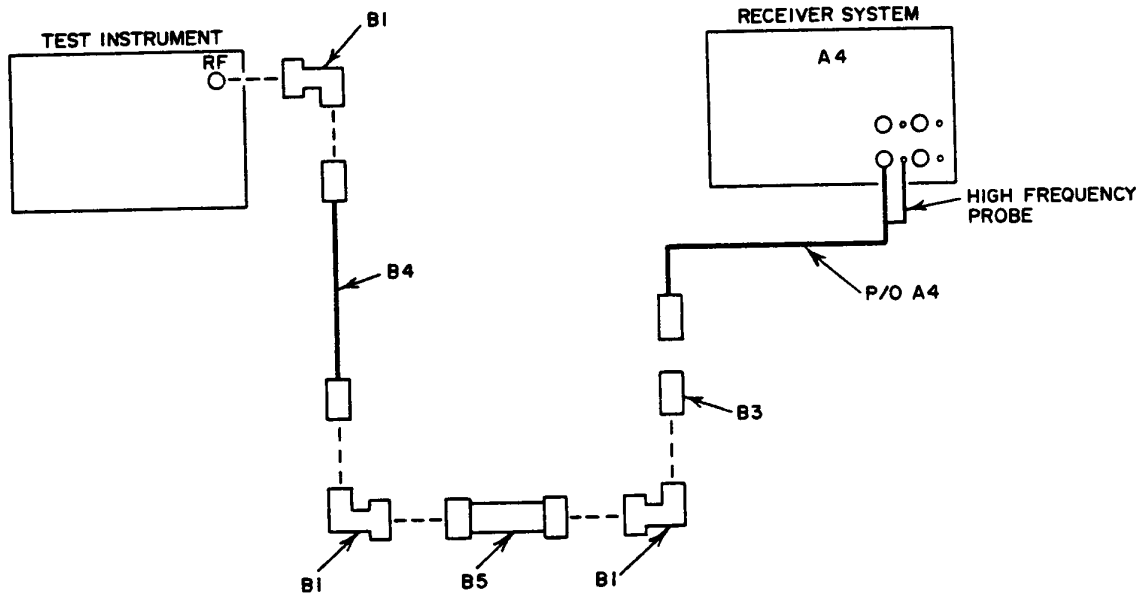

Figure 3. Attenuation - equipment setup.
(1) Connect equipment as shown in figure 3.